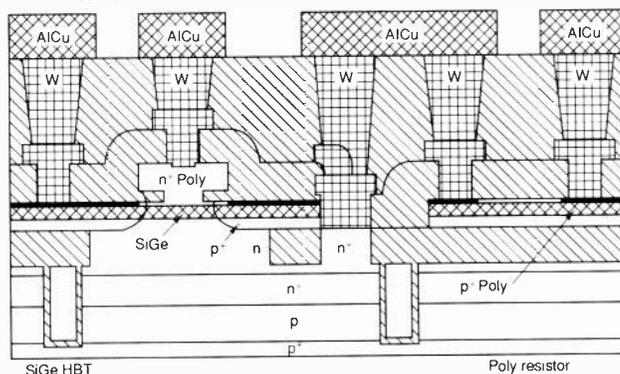

Fig. 3. The structure of an SiGe HBT
Figure 3 shows the structure of a complete SiGe HBT. While researchers outside IBM (including Motorola, M/A-COM, NEC and Daimler Benz) are also working on SiGe, they are achieving fewer devices and lower yields. In addition, most are working on classic mesa structures, which are incompatible with conventional processing techniques.
Figure 3 shows how far the frequency of a typical crystal can be pulled by changing its load capacitance. The degree of pulling for a given configuration is obtained by:
**Fig. 3. When estimating how far a crystal's frequency can be pulled by changing its load capacitance,  $C_L$ , both package shunt capacitance,  $C_0$ , and motional capacitance  $C_1$  need to be taken into account.**